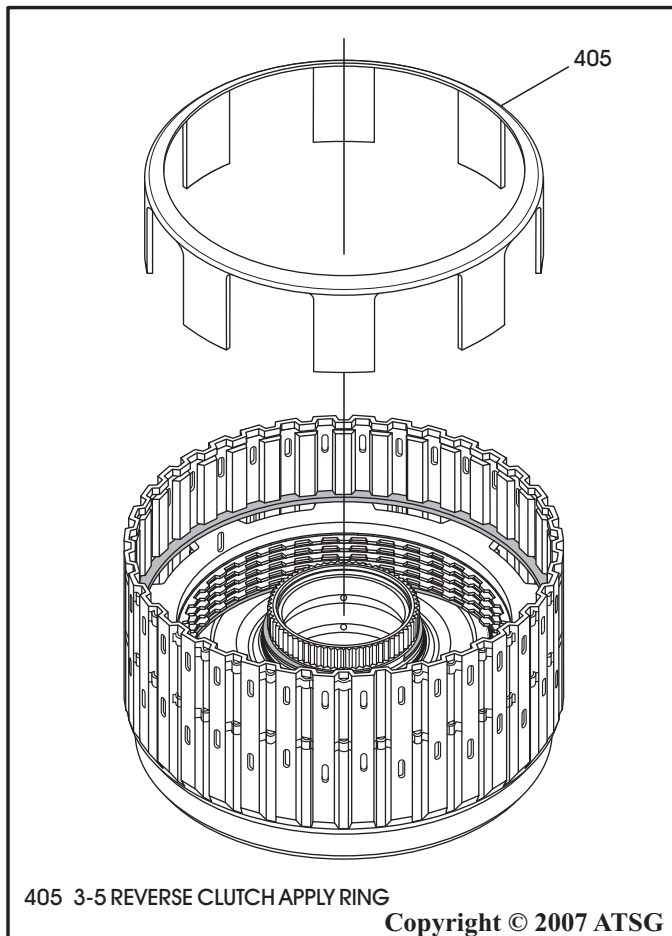

Figure 100
29. Install the 3-5 reverse clutch apply ring with legs going down between the 1-2-3-4 backing plate and the housing, as shown in Figure 100.